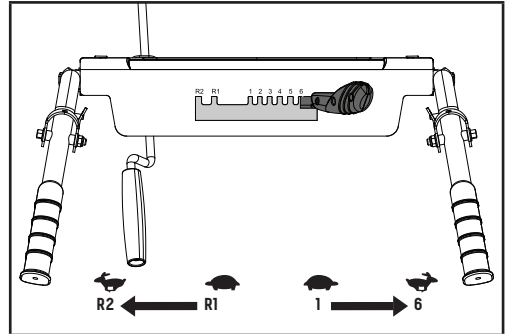

Figure 14
Your snowblower has 6 forward speeds and 2 reverse to regulate forward and backward motion (Fig. 14).
2. Move the speed-control lever to the gear (either forward or reverse) that you require (Fig. 14).